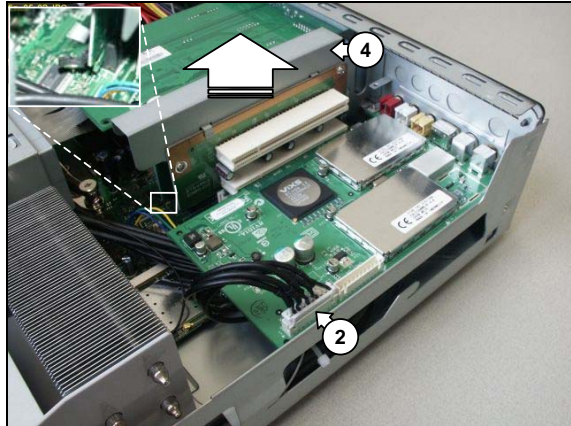

Figure 12.5-2
3. Disconnect the TV daughter card cable (2) from the TV tuner card. See Figure 12.5-2.
4. Push the locking tab arm (3) on the motherboard PCI-E connector to release the PCI-E riser card. See Figure 12.5-2.
5. Pull upwards on the riser card bracket (4) until the riser cards are free from the motherboard connectors. See Figure 12.5-2.
**Note:** The TV daughter card cable (2) must be connected to A/V Input 2 on the TV tuner card. See Figure 12.5-2.
**Note:** The torque setting required for the riser card subassembly mounting screws (1) is 8kg-cm